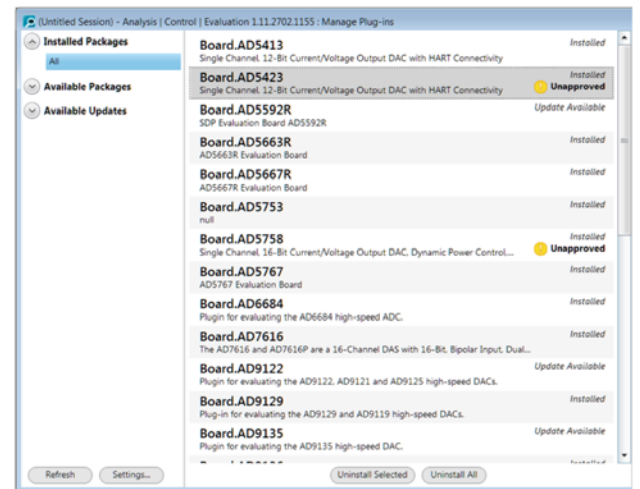

Figure 4. Plugin Manager Window
6. The plugin manager window appears, as shown in Figure 4.